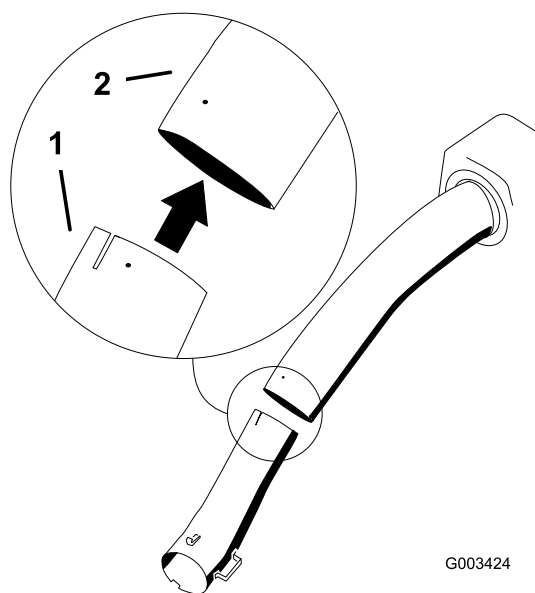

Figure 22
7. Install the lower tube into the upper tube (Figure 22).